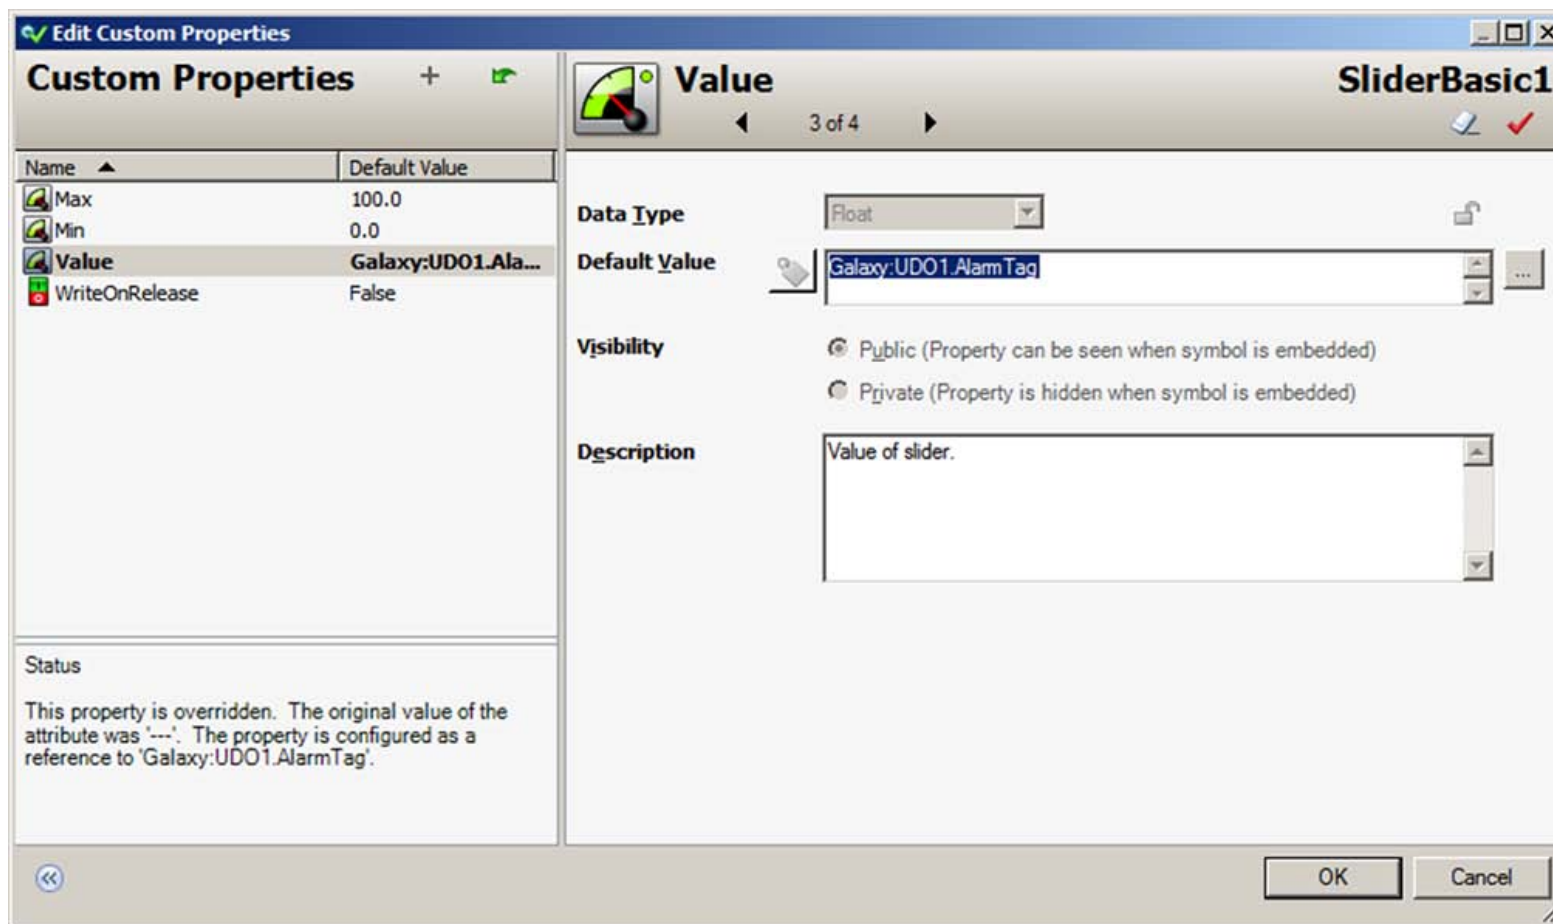

FIGURE 12: CUSTOM PROPERTY DEFAULT FOR SLIDERBASIC
14. Double-click the SliderBasic control and add **Galaxy:UDO1.AlarmTag** for the Custom Property's Default Value (Figure 12 blow).